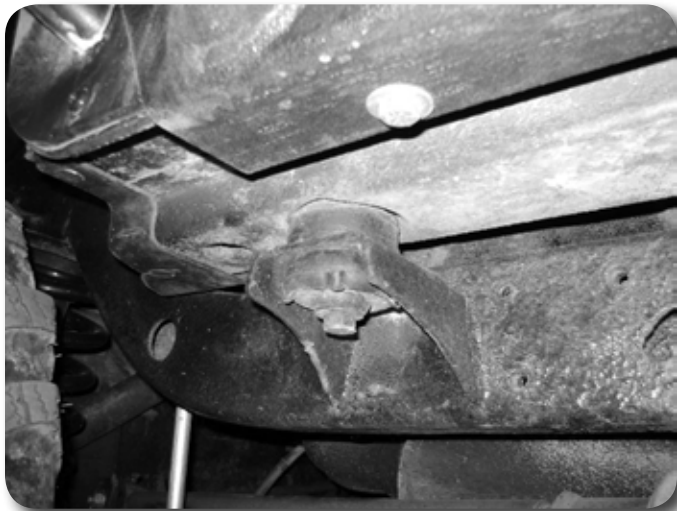

Figure 6
8. Locate all of the body mounts (11 total) and loose but do not remove all the body mount bolts. The mounts are located as follows: (1) at the front under the middle of the grill, (3) along the outside of each frame rail between the front and rear axles, (1) inside each frame rail located above the rear axle and (1) at the back and outside of each frame rail.
9. Remove the front and passenger's side body bolts (6 total). **Figure 6** Using a hydraulic jack and block of wood, raise the passenger's side just high enough to place the body blocks on the (5) factory passenger's side mounts. The front center spacer will not be installed until after both sides of the vehicle are lifted. Watch for hoses, wires, etc that might be binding or stretching while the body is lifted.